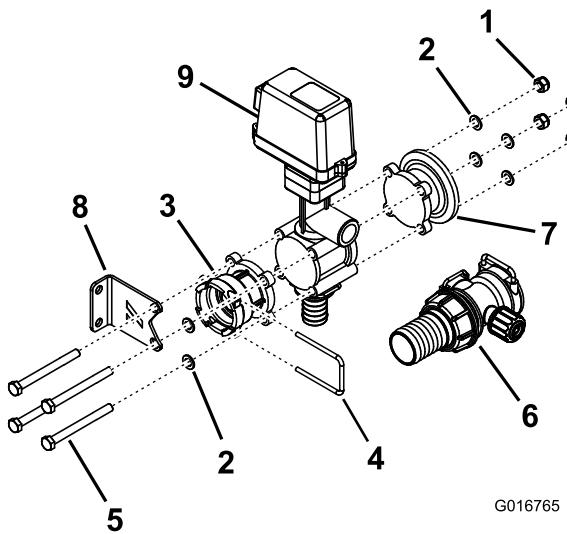

Figure 33
3. Install the T5 adapter fitting onto the agitation valve with the following previously removed parts: the left-hand mount bracket, 4 threaded rods, 6 washers, and 8 locknuts as shown in Figure 33.
5. Secure the T5 adapter fitting to the agitation valve (Figure 33).